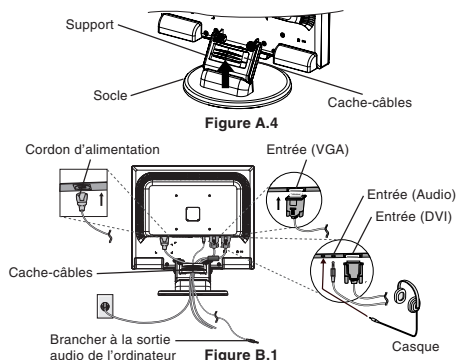

Figure A.4
3. Retirez le cache-câbles (Figure A.4).